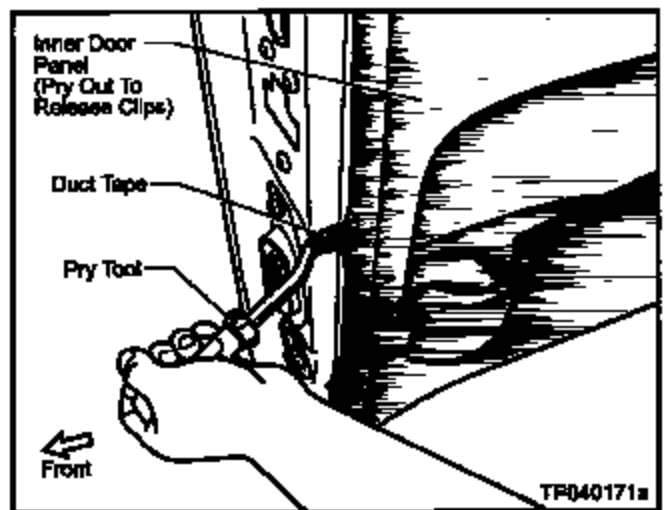

Figure J14
- a. Use a suitable Pry Tool to carefully release the Securing Clips along the front edge of the Inner Door Panel (see Figure J14).
**CAUTION:** Be careful not to damage the paint/plastic. Use duct tape on the end of the Pry Tool (see Figure J14).